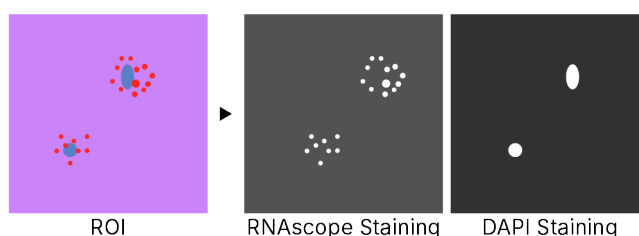

Figure 1. Analyzing each fluorescent channel separately.
3. Analyze each fluorophore channel separately. Select the region of interest (ROI), or use the whole image as one ROI (Figure 1).